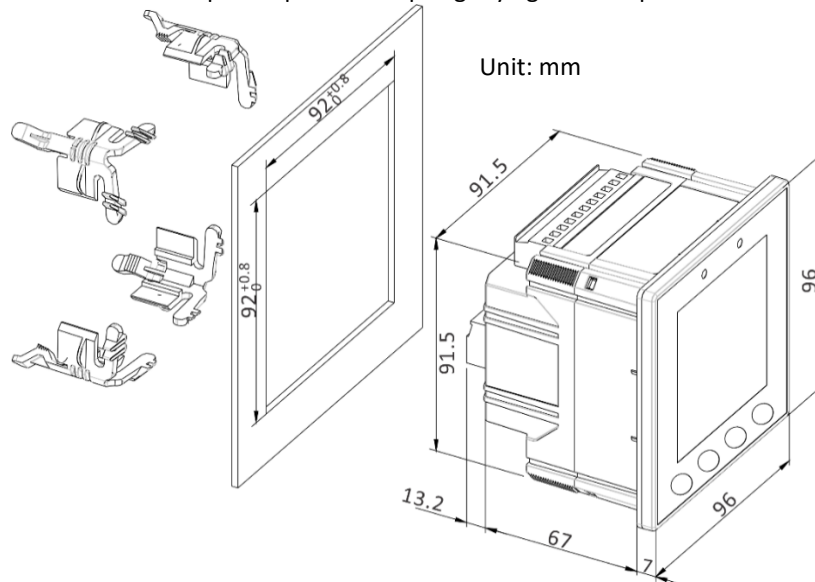

Figure 2-14 Panel Cutout Mounting
- Fit the meter through a 92x92mm cutout as shown in Figure 2-14